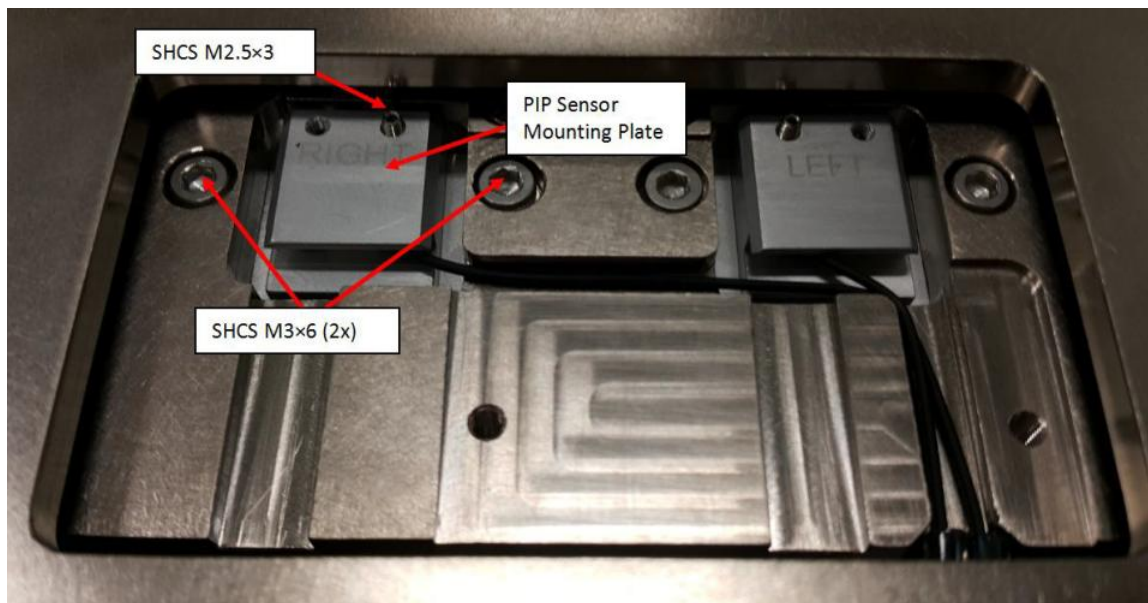
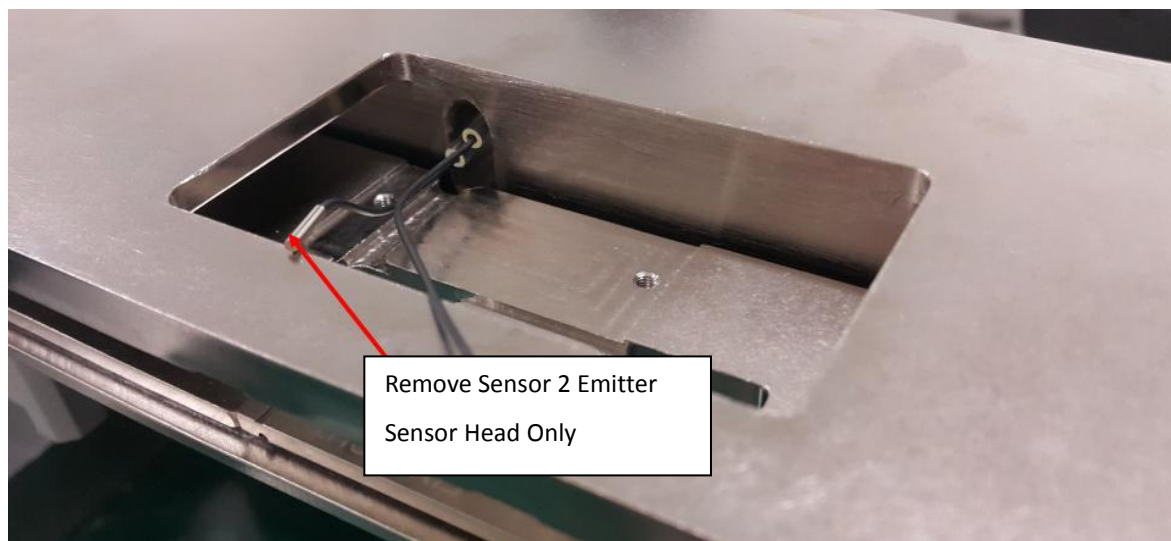

Figure 5 Sensor 2 Emitter
Figure 6 Sensor 2 Emitter (Sensor Head)
3. Open SHCS M3×6 (2x) from Sensor 2 Emitter as shown in Figure 5. Then loosen SHCS M2.5×3. Remove the Optical Sensor 2 Emitter head from pip sensor mounting plate as shown in Figure 6